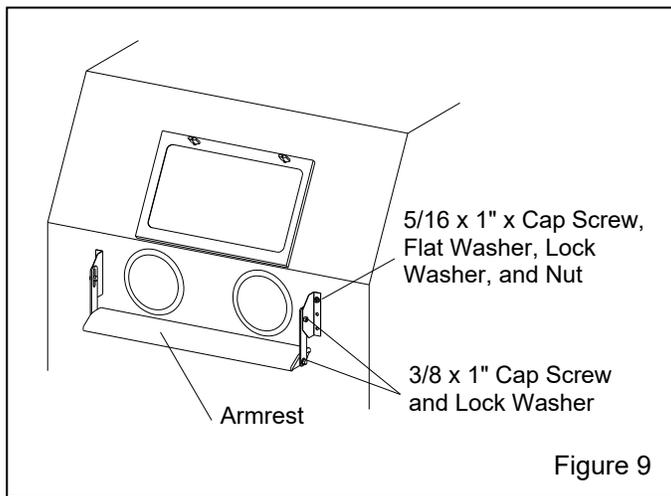

Figure 9
3.4.1 Assemble the armrest and mounting brackets, as shown in Figure 9.